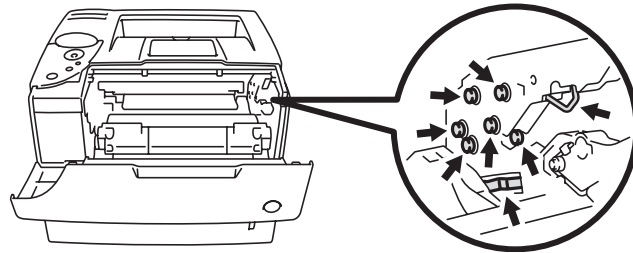

Figure 6-9
- To prevent damage to the printer from static electricity, do not touch the electrodes shown in Figure 6-9.